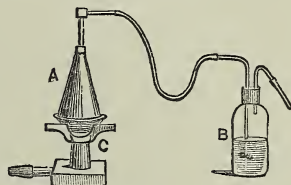

Fig. 9.
The material most convenient for obtaining oxygen gas for lime-light purposes is chlorate of potassa. Two parts of this material (by weight) is mixed with one part of powdered black oxide of manganese (this is known as 'oxygen mixture'). The oxide of manganese does not supply any of the oxygen, but its presence facilitates the decomposition of the chlorate of potassa. The apparatus used for generating the gas is shown at Fig. 9. It consists of a copper or iron vessel (A), forming the retort or generator, a glass bottle-shaped vessel (B), which is the purifier, the two being connected together by a flexible tube. It will be seen that there are two tubes proceeding from the top of the purifier, one of which reaches nearly to the